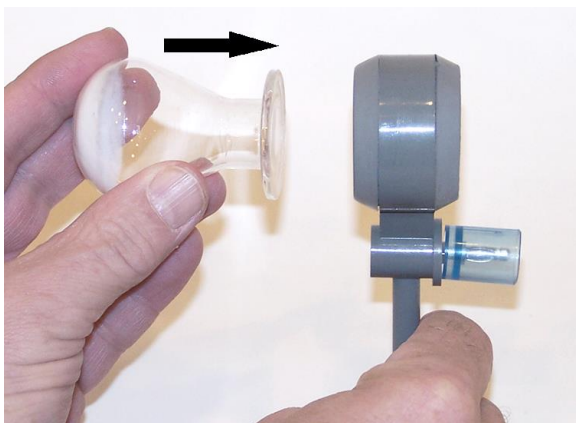

Fig. 1
- Fit the end caps into the holder (see Fig. 1).